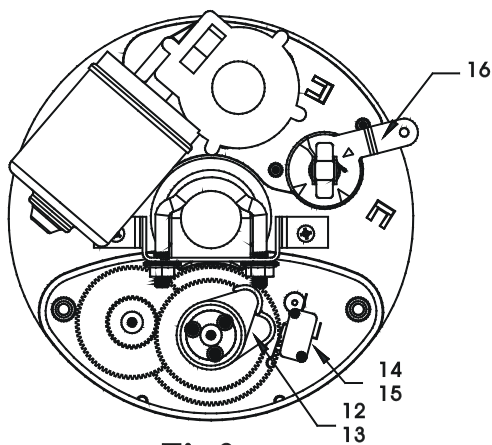

Fig 2
Remove the Drive Unit from the packaging. Rotate the forked drive gear by pushing the fork. If the drive gear does not rotate, turn the Lock/Release lever. **Fig 2** (For more instructions on how to “Lock” and “Release” the Drive Gear refer to Section 11)
- 3.2 Remove the limit cover **Fig 2** and slightly loosen the 3 cam locking screws (to the extent that you can rotate the cam by hand with a firm push). Rotate the Open Limit Cam by hand, in the direction of the Open Limit Switch, until you hear the Switch “click” **Fig 2**. Once the Open Limit Switch “clicks” continue to rotate the cam a further 5 degrees or so.
- 3.5 Slightly re-tighten the 3 Cam Locking Screws **Fig 2**